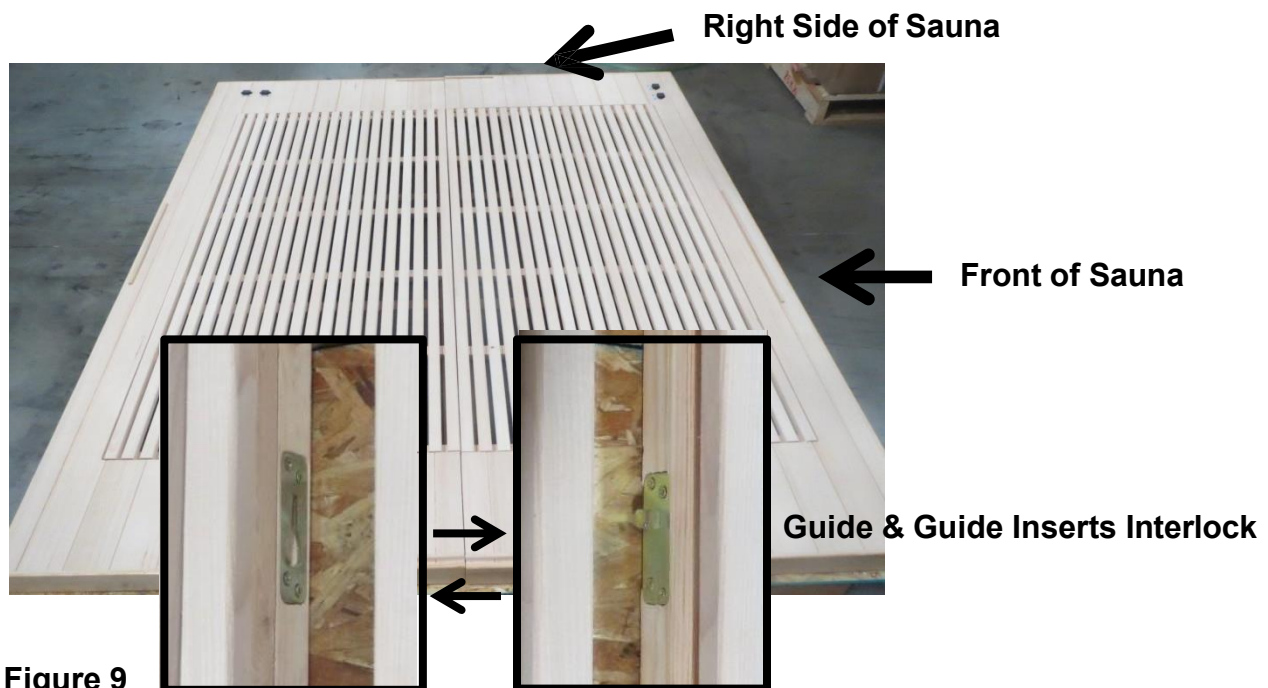

Figure 9
- a. Locate the two FLOOR PANEL pieces. The two FLOOR PANEL pieces will need to be interlocked into one another using the pair of guide and guide inserts (which are already installed on the FLOOR PANEL pieces). (see Figure 9)